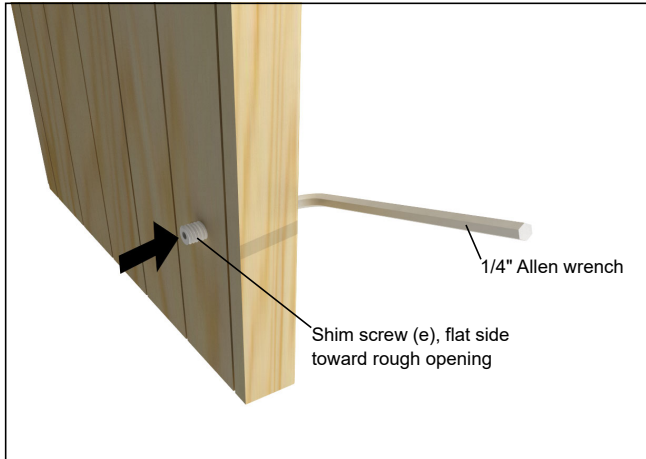

Figure 19
1. Place Install adjustable shim screws into the head jamb and side jamb with 1/4" Allen wrench. See figure 19.